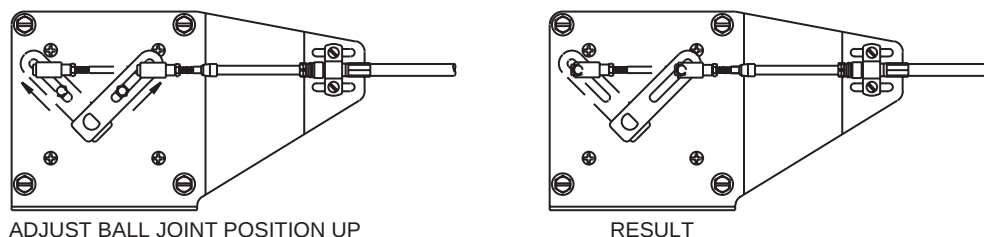

Figure 27. Adjustment of Cable Attachment
- B: When the travel of the Servo Actuator lever is narrower than the travel of the push-pull cable, adjust by moving the attachment for the cable on the Servo Actuator lever up and away from the shaft of the actuator. See Figure 27.